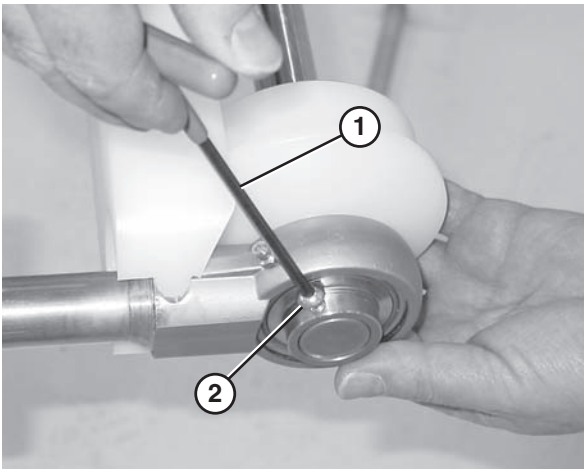

Figure 78
4. Use a hex wrench (**Figure 78, item 1**) to loosen the bearing shaft assembly fasteners (**Figure 78, item 2**).